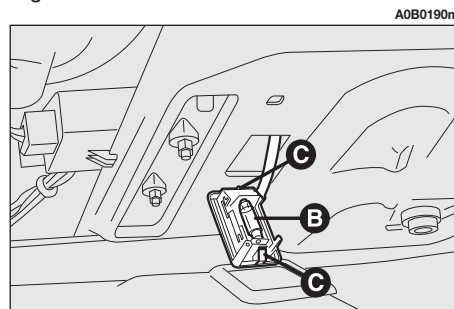

fig. 65
- Replace the bulb (**B-fig. 65**) of the cylindrical type pulling it outwards ensuring that the new bulb is correctly positioned between the contacts.
- Refit the transparent cover ensuring that the retaining tabs click into place (**C-fig. 65**).